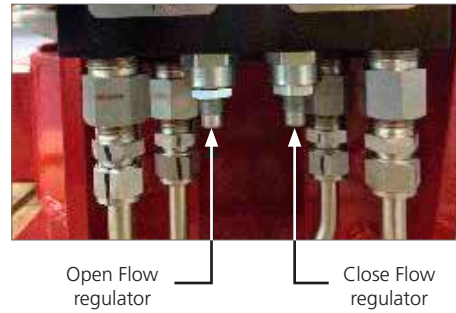

Fig 12.7 Flow regulator, front view
- Rotate the flow regulators (see Fig 12.7), by means of an Allen key, clockwise to lower the flow rate